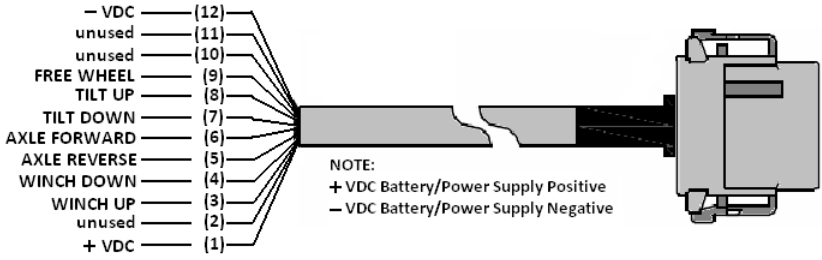
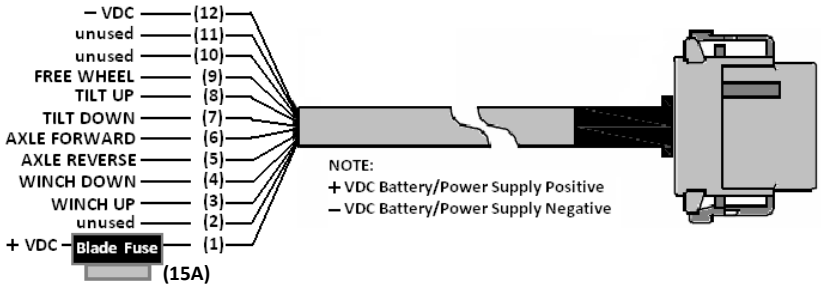

Figure 5. Standard Cable Wiring Harness HN-1001
Figure 6. Optional Fused Cable Wiring Harness HN-1000
| Figure 5. Standard Cable Wiring Harness HN-1001 | 7 |
| Figure 6. Optional Fused Cable Wiring Harness HN-1000 | 7 |
- Choice of standard (Figure 5 below) or optional fused-cable (Figure 6 below) wiring harness